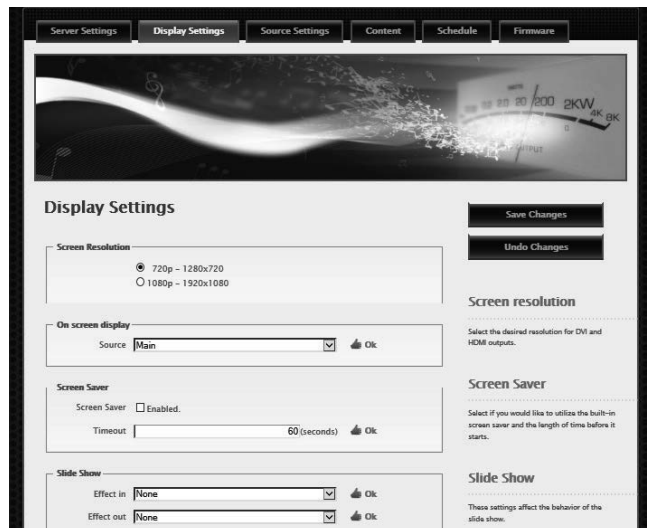

Figure S2
4. Select “Display Settings”. Refer to figure S2.